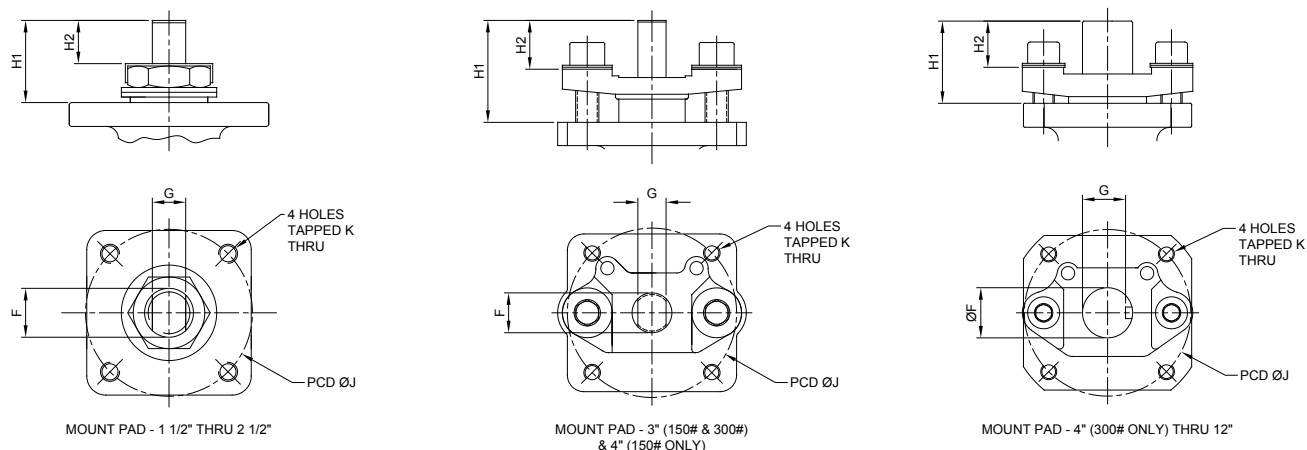

Fig. 4 - Valve Stem & Mount Pad Set-Up
- 5.5 The mount pad for each valve conforms to ISO 5211 and the stem dimensions are as shown in fig. 4 and table 1 on the following page.